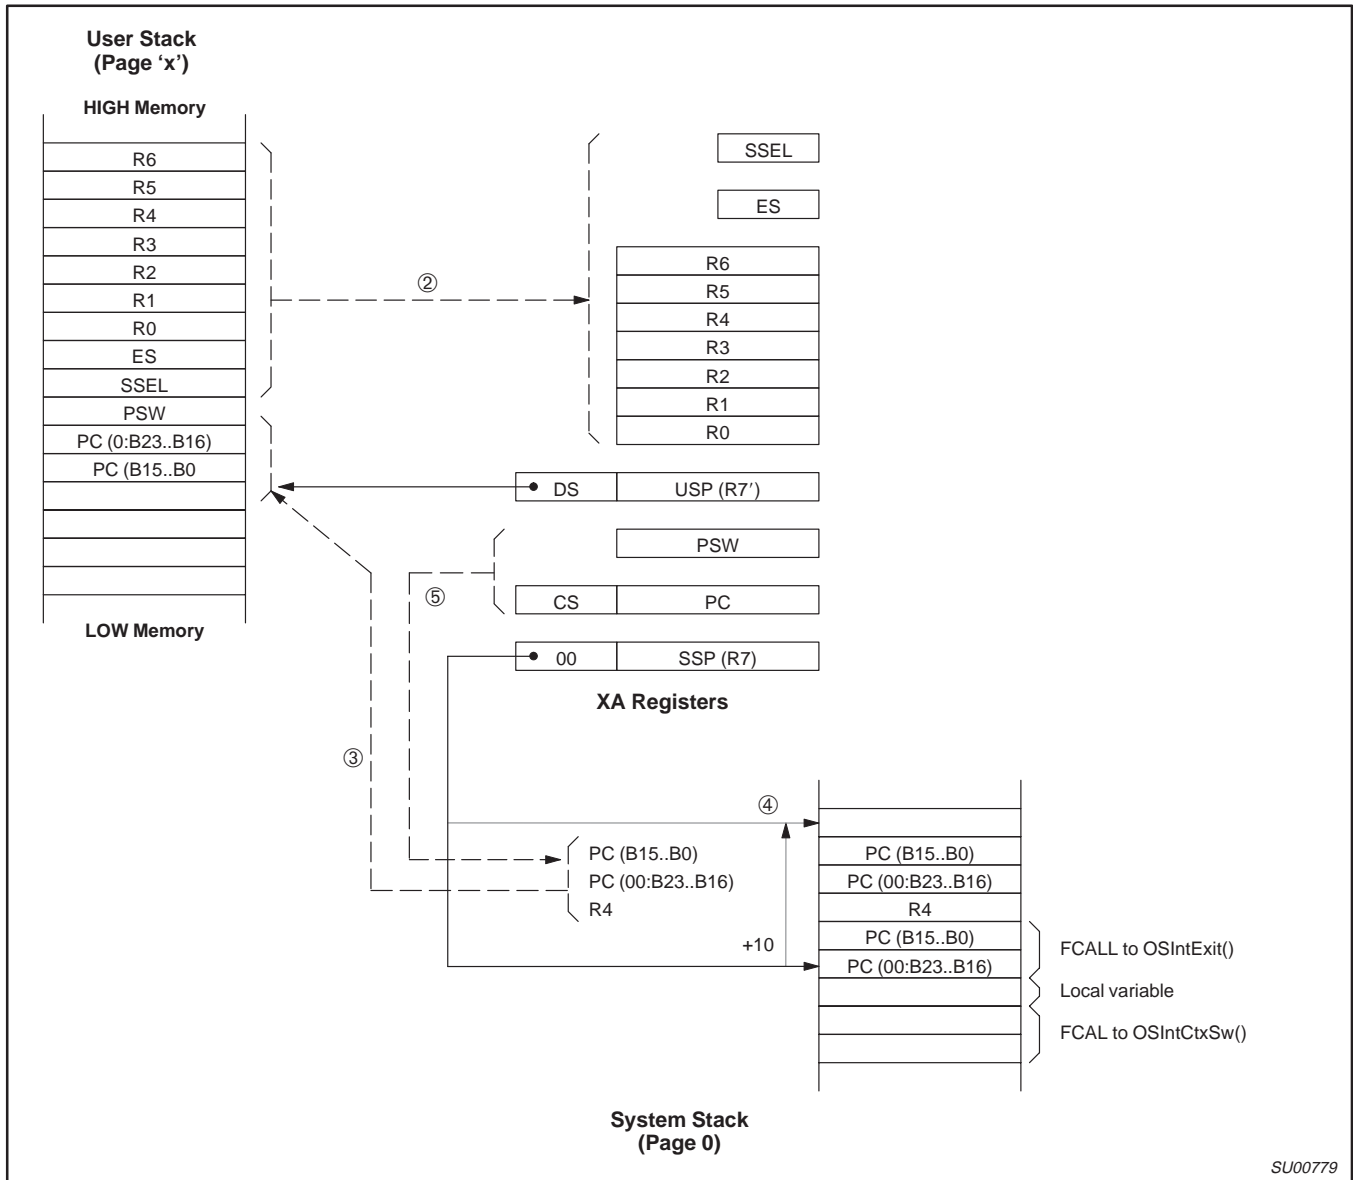

Figure 11.
The stack frames (system and user) during an interrupt is shown in Figure 11. Items ①, ② and ③ are performed at the beginning of your ISR. When you call `OSIntExit()`, the return address is pushed onto the system stack. `OSIntExit()` creates a local variable on the stack by saving R4. If a context switch is needed, `OSIntExit()` calls `OSIntCtxSw()` which also causes its return address to be pushed onto the stack. In order for `OSIntCtxSw()` to properly perform a context switch, the stack pointer (R7) needs to be adjusted so that it points as shown in Figure 11, ④. The adjustment value of the stack pointer depends on the compiler model and the compiler options selected. The value is, however, at least 8 (for the large model) because of the two return addresses. If your application crashes you may want to make sure that you have the proper value for this constant. The rest of the context switch is exactly the same as previously discussed.